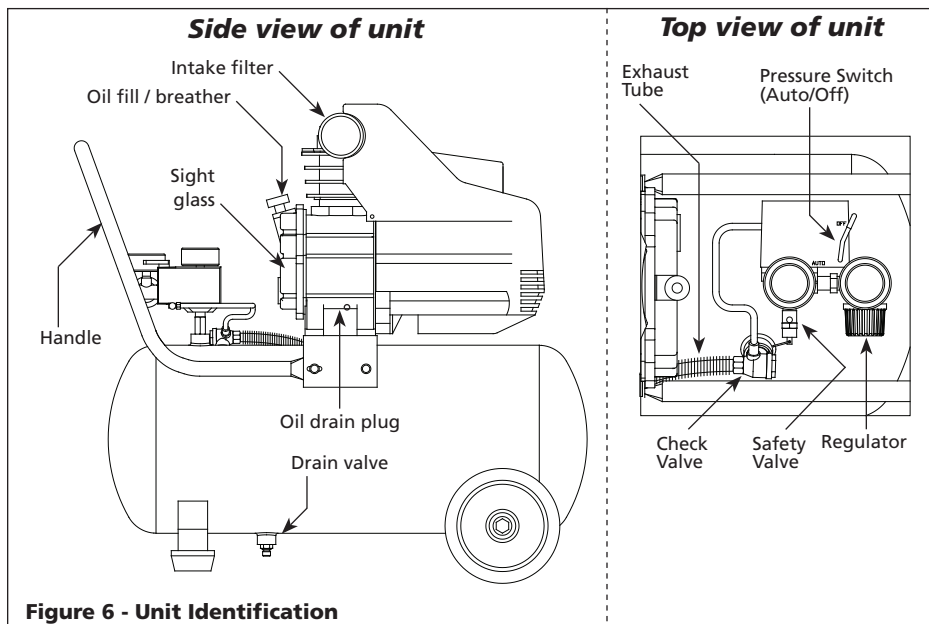

Figure 6 - Unit Identification
2. Wearing safety glasses, pull the ring on the safety valve (see Figures 6 and 8) to release pressure from compressor tank. Use your other hand to deflect fast-moving air from being directed toward your face.
- Turn compressor off and release pressure from system. To release pressure from system, pull ring on ASME safety valve (see Figures 6 and 8). Deflect escaping air by shielding valve with one hand as you pull ring with other hand. Pull ring until tank is empty.
- Drain moisture from tank by opening drain valve (see Figure 6) underneath tank. Tilt tank to remove all moisture.
- Remove oil drain plug (see Figure 6). Allow oil to collect in pan. Tilt unit to completely drain.